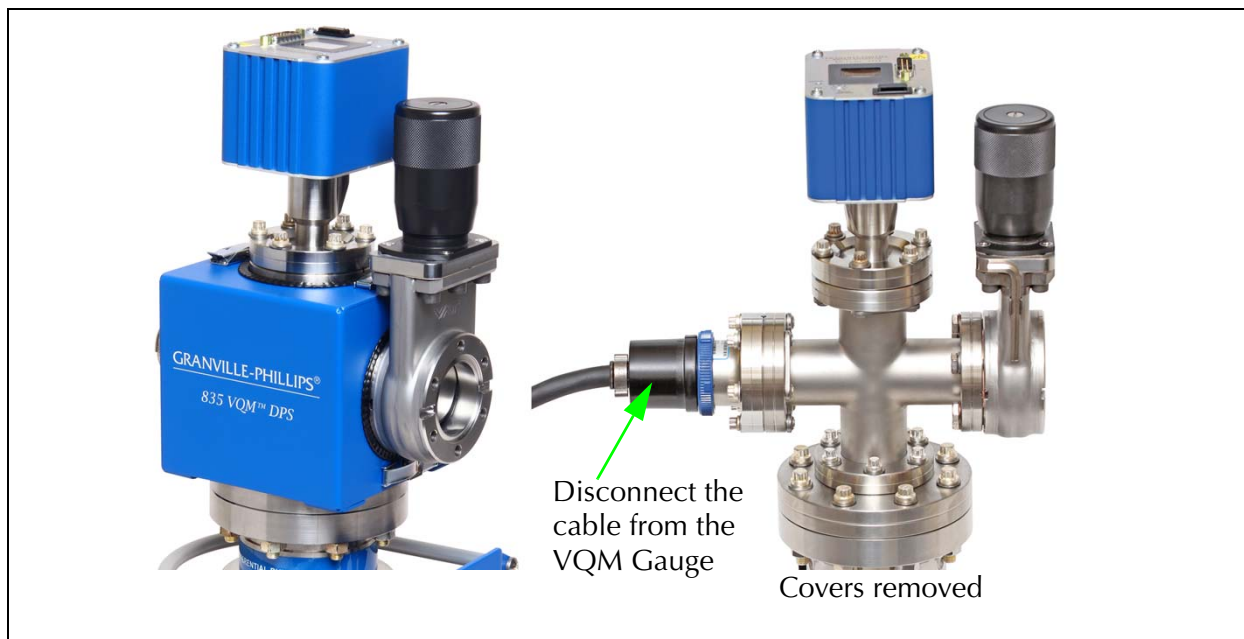

Figure 5-4 **Differential Pump System With & Without Covers**
2. Remove the blue cover over the VQM Gauge; open the 4 mounting latches and remove the covers to expose the 4 way cross that is attached to the VQM gauge, the Micro-Ion Gauge, and the turbomolecular pump. See Figure 5-4.